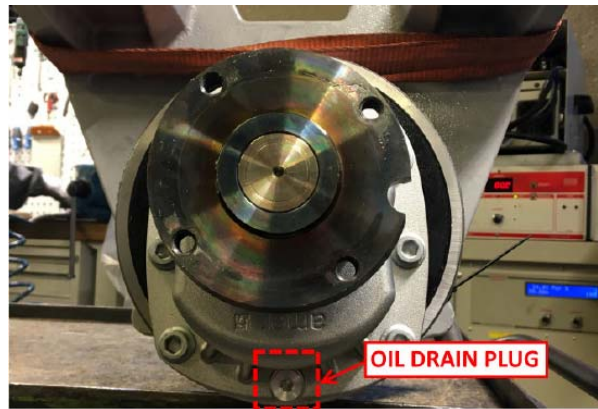

FIG. 6
4. Remove the drain plug from the drive wheel assembly and allow the oil to drain into the drain pan. (Fig. 6)